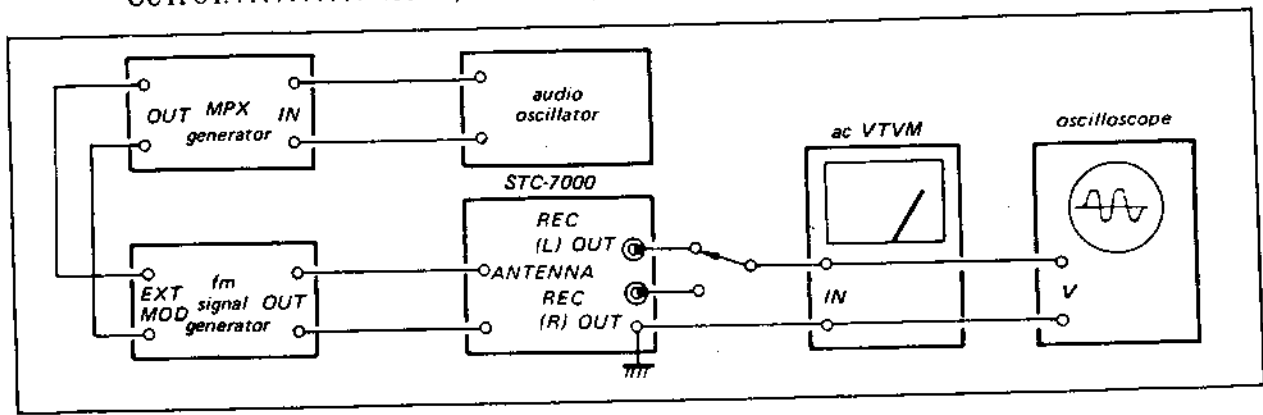

Fig. 3-5. Fm stereo separation adjustment test setup
1. Connect the equipment as shown in Fig. 3-5. Set the fm signal-generator's control as follows:
- (a) With the equipment connected as shown in Fig. 3-5, set the MPX stereo generator controls as follows.